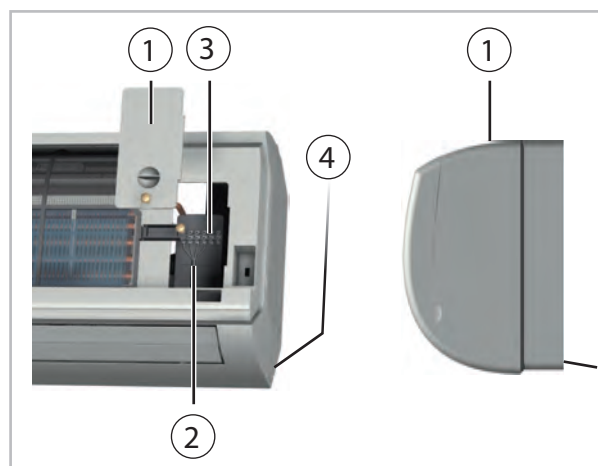

Fig. 37: Connecting the indoor unit
2. ➤ Remove the covers on the right-hand side (Fig. 37).
3. ➤ Connect the customer-laid control line to the terminals (Fig. 37).